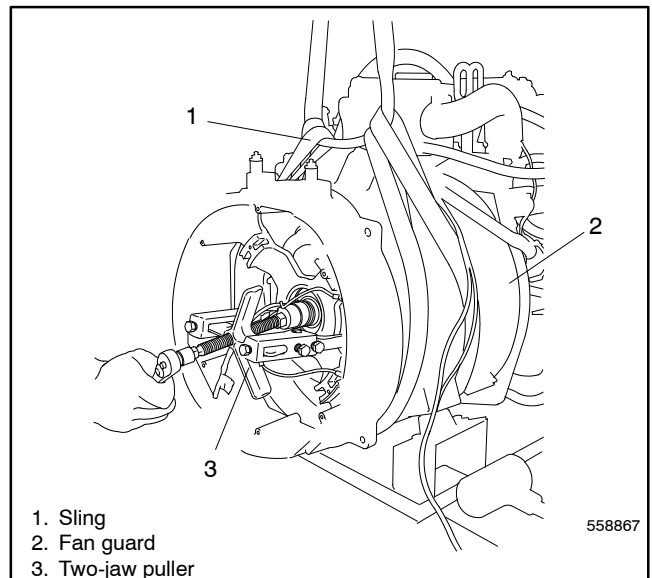

Figure 4-11 Stator Assembly Removal
12. Install a sling capable of handling the weight of the alternator assembly on the stator housing. See Figure 4-11.
13. Use a two-jaw puller to pull the end bracket/stator assembly from the bearing on the rotor shaft. See Figure 4-11.